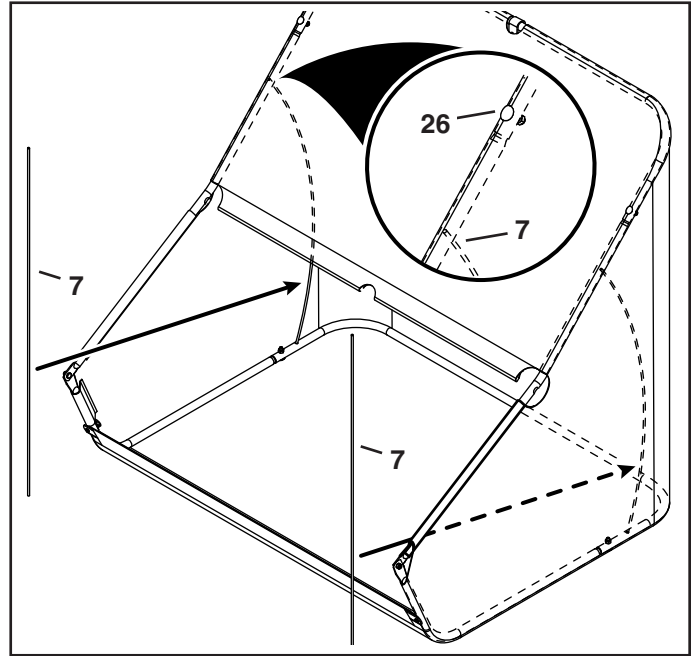

FIGURE 15
26. Insert the hopper support rods (7) into the hole **beneath the curved head bolt** (26) in each upper hopper tube. Flex and insert the rod into the hole in the bottom rear hopper tubes as shown in figure 15. **NOTE:** The hopper support rods will flex about as much as shown in figure 15 when they are assembled.